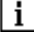

Figure 5
-  The wires on the **old** NOx sensors should be cut off to facilitate removal and to ensure they are not reused **(Figure 5)**.